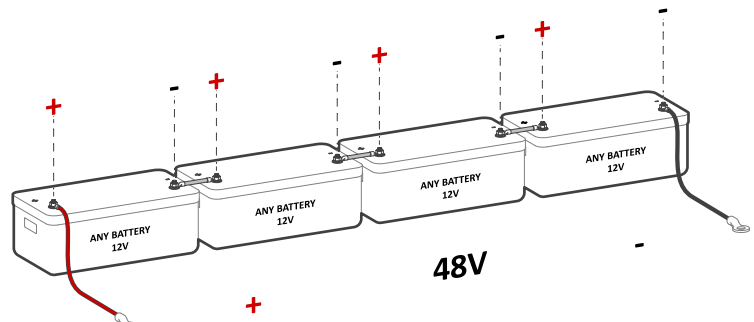

Figure 5b: Four 12V batteries in series connection
⚠ Sol-Ark 5K-1P-N is a **48Vdc nominal system**. **DO NOT** connect the inverter to any other battery configuration. If you use 12V batteries, you **MUST NOT** exceed four (4) batteries in series, as shown in Figure 5b. The inverter can work with any battery chemistry if it remains within the range of **40V to 60V**.